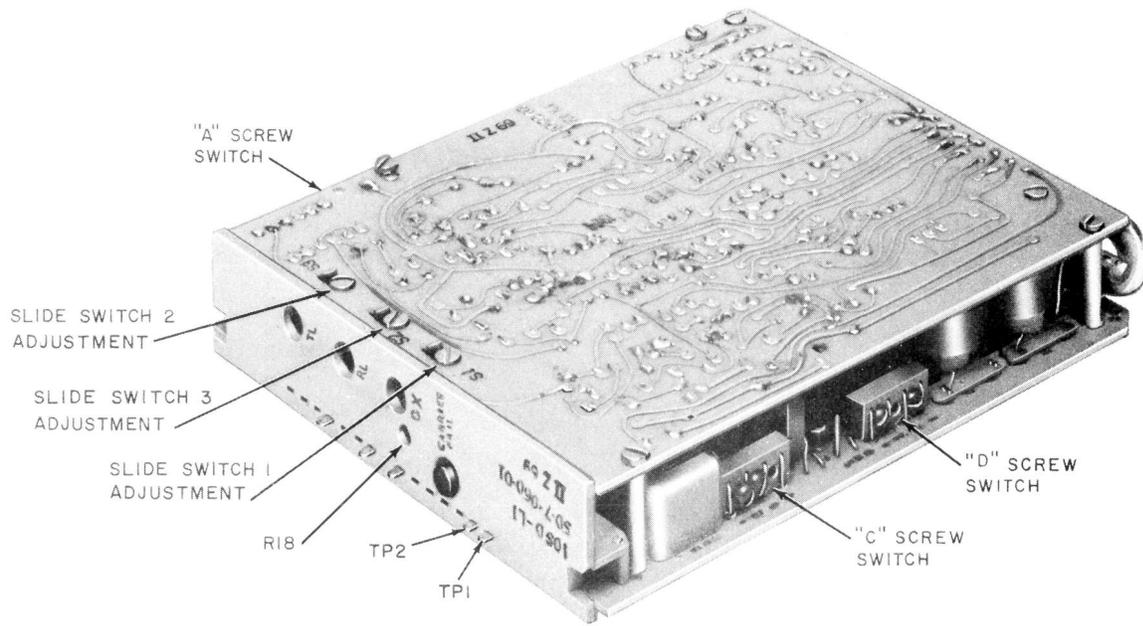
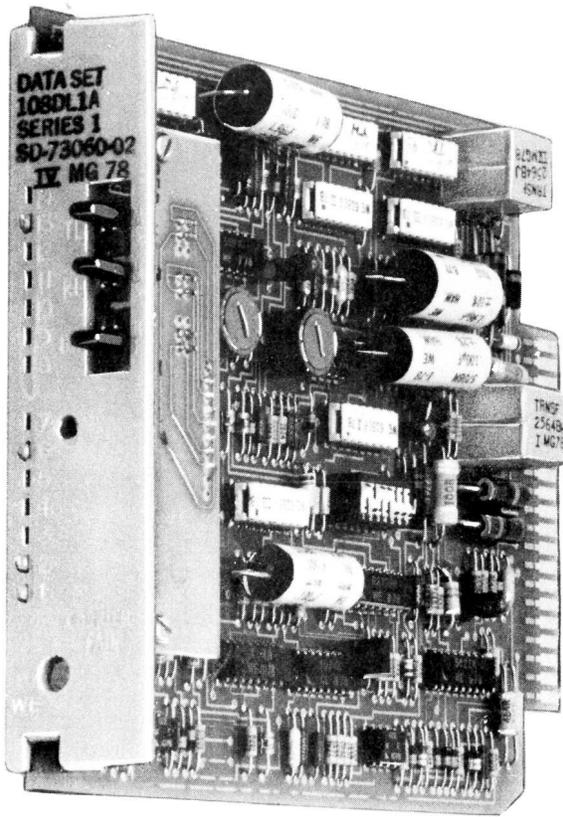

Fig. 1—Data Set 108D-L1
Fig. 3—Data Set 108D-L1A
1.03 Data sets 108D-L1 and 108E-L1 (Fig. 1 and 2) have been redesigned. The new sets are coded DS 108D-L1A and DS 108E-L1A (Fig. 3 and 4). These sets offer the same features and fit into the same mountings as the MD sets they replace. However, there are small differences between the sets. When necessary to describe these differences the sets will be referred to by full designation (DSs 108D-L1, 108E-L1, 108D-L1A and 108E-L1A).
2.02 Figures 1 and 2 show all items and designations visible on the faceplates of DS 108D (series 2) and DS 108E (series 1), respectively. Three slide switches (S1, S2, and S3) are visible from the front faceplate of the data set; however, the data set card must be removed from the data auxiliary set in order to change the slide switch settings. The screw holding the slide in place is loosened to slide the switch contact to the proper option as indicated by the tab. After positioning the contact, the screw is tightened (see Fig. 1 and 2).